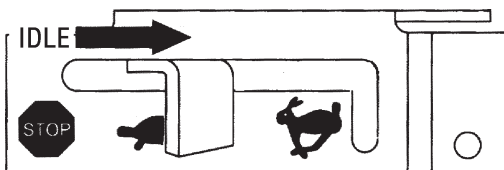

Figure 22. Throttle Lever (Idle Position)
3. Place the **throttle lever** (Figure 22) in the **"TURTLE" (IDLE)** position.